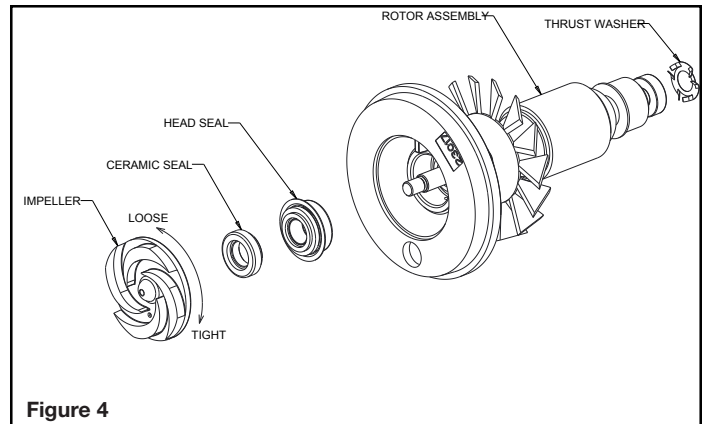

Figure 4
6. Remove the rotor assembly from the motor housing. There is a thrust washer in the bearing pocket at the back of the motor housing, if the thrust washer falls out make sure it is put back into the pocket before reassembling. Ref fig. 4